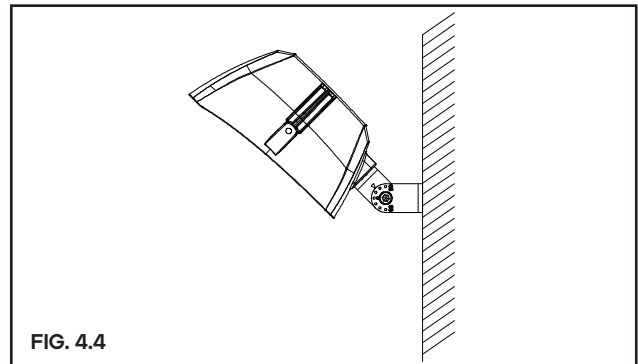

FIG. 4.4
Step 3: Loosen screw; Adjust fixture angles as per actual demands and tighten screws later. (Figure 4.4),